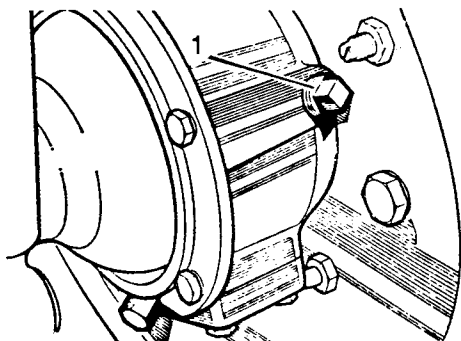

Fig J1.55
- (1) Refer to Fig J1.55. Remove the filler hole plug (1).